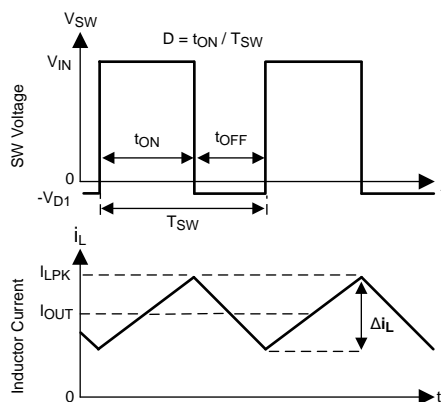

Figure 33. SW Node and Inductor Current Waveforms in Continuous Conduction Mode (CCM)
The following operating description of the LM46000 will refer to the Functional Block Diagram and to the waveforms in Figure 33. The LM46000 is a step-down Buck regulator with both high-side (HS) switch and low-side (LS) switch (synchronous rectifier) integrated. The LM46000 supplies a regulated output voltage by turning on the HS and LS NMOS switches with controlled ON time. During the HS switch ON time, the SW pin voltage V_{SW} swings up to approximately V_{IN} , and the inductor current I_L increases with a linear slope $(V_{IN} - V_{OUT}) / L$. When the HS switch is turned off by the control logic, the LS switch is turned on after a anti-shoot-through dead time. Inductor current discharges through the LS switch with a slope of $-V_{OUT} / L$. The control parameter of Buck converters are defined as Duty Cycle $D = t_{ON} / T_{SW}$, where t_{ON} is the HS switch ON time and T_{SW} is the switching period. The regulator control loop maintains a constant output voltage by adjusting the duty cycle D . In an ideal Buck converter, where losses are ignored, D is proportional to the output voltage and inversely proportional to the input voltage: $D = V_{OUT} / V_{IN}$.